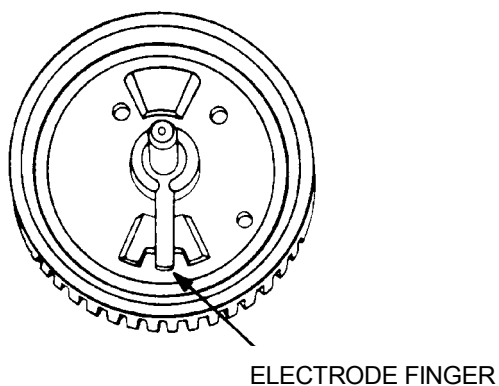

Figure 8.11A
1. Inspect gear teeth for wear and general integrity. Replace block assembly (31) as necessary.
2. Inspect the electrode finger for looseness. The electrode should be held securely to the shaft when tested with light finger pressure. Any loose condition requires block and gear (31) replacement. (See Figure 8.11A).